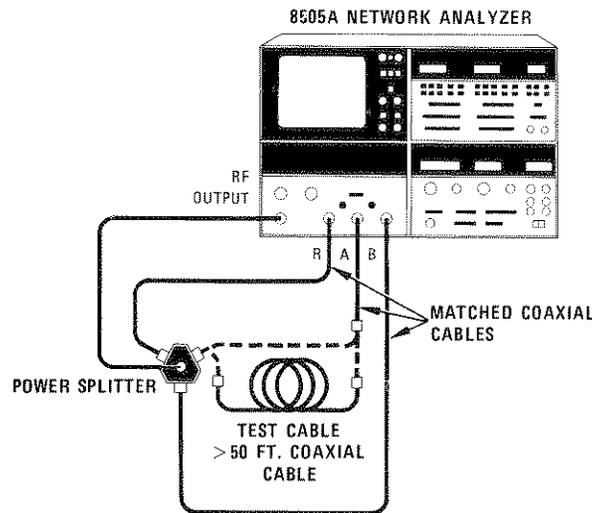

Figure A2-24. Test Setup to Measure Group Delay of Test Cable
- (1) Connect the "Test Cable" in A channel between the matched cable and the power splitter as shown in Figure A2-24.
- (2) Set 8505A controls as follows:
b. Connect equipment as shown in Figure A2-24 with both matched cables and adapters connected to power splitter and "test cable" not connected in circuit.